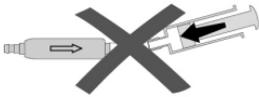

Fig. 6: Avoidance of pressurisation
- ▶ **Pressurisation with a single-use syringe should be avoided both at the proximal and the distal end. (Fig. 6).**